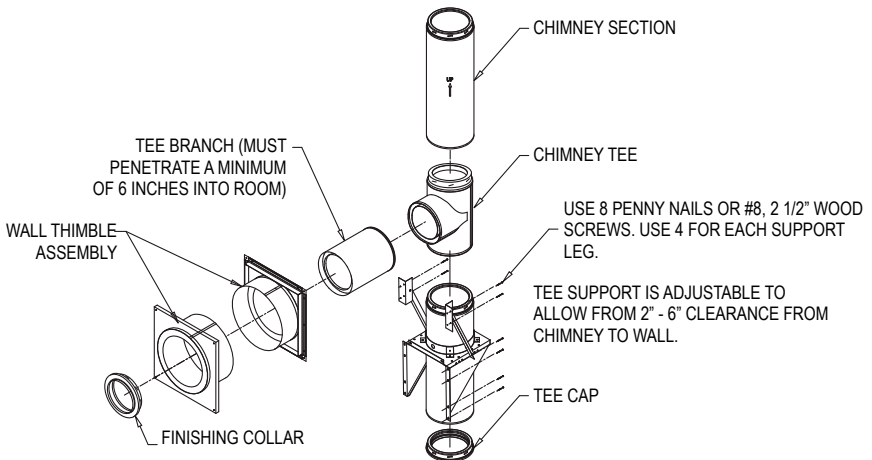
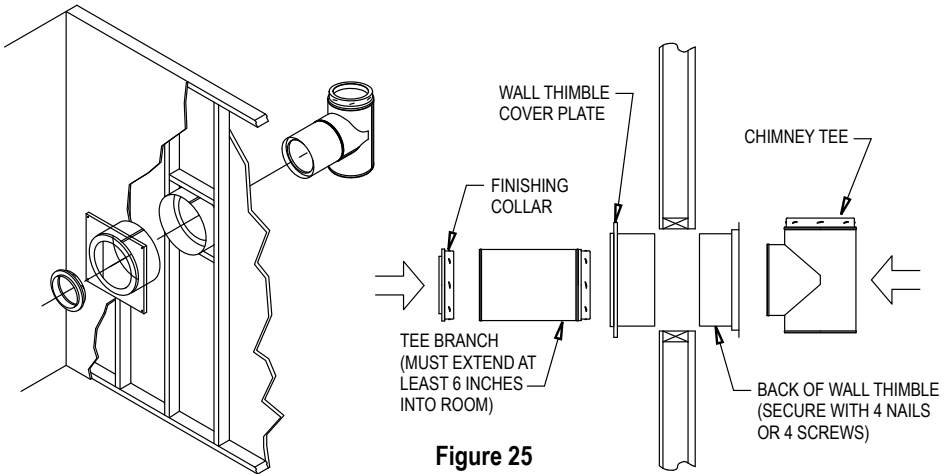
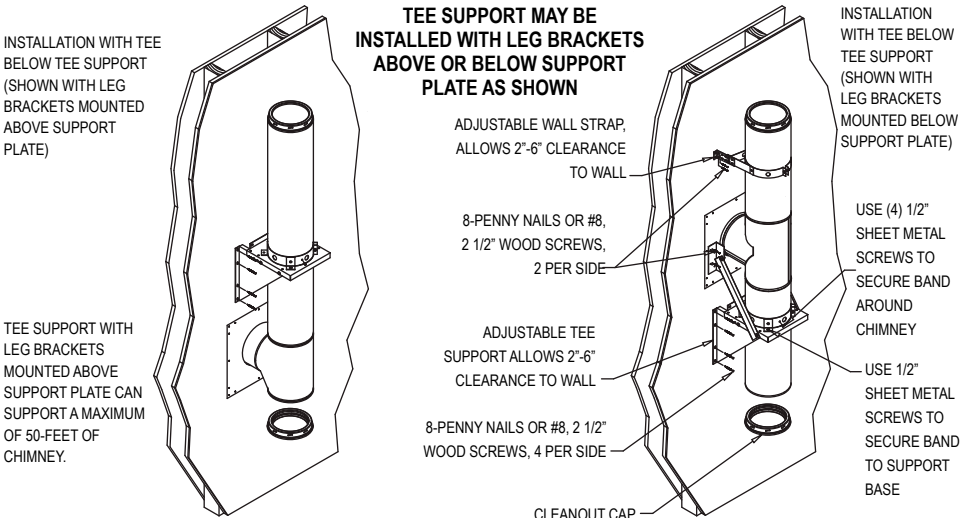

Figure 24
Figure 25
Figure 26
that the chimney Tee will be centered inside the Wall Thimble (**Figs 24, 25, & 26**). The Tee Support may be installed either above the Tee or below the Tee (within one pipe section), as seen in **Figure 26**. The Tee Support can support up to 50-feet of chimney by itself, or up to 70-feet of chimney if the Tee Support Straps are used (**Fig 24, 26**). Important: Verify that Tee Support is level, and secure the leg brackets of the Tee Support to the wall using (4) #8, 2-1/2" screws for
each side. Slide support base over leg brackets to adjust for desired clearance to wall, and secure by tightening bolts. (Figs 26 & 27).
Section: Twist lock the Tee onto a desired length of Chimney to be used as the cleanout section. Use only one chimney section (any length) to attach to bottom of the Tee. Tighten support band around chimney section at proper height to insure that Tee is centered through Wall Thimble (Fig 25 & 26). Use the 1/2" sheet metal screws provided to insure a tight connection between support band and chimney section. Connect support band to support base using the 1/2" sheet metal screws provided (Fig 26). Twist lock Tee Cap into bottom of Chimney Cleanout section.
6. Install Branch onto Tee: From inside the house, attach the Chimney Branch up to 24" chimney section, depending on wall thickness, positioned horizontally used to pass through the wall) to the Tee by twist locking it clockwise. Important: The Chimney section used to penetrate through the wall must extend at least 6" into the room (Fig 25 & 27). Use high-temperature sealant (500°F) to seal between the Wall Thimble and the Chimney on the outer wall.